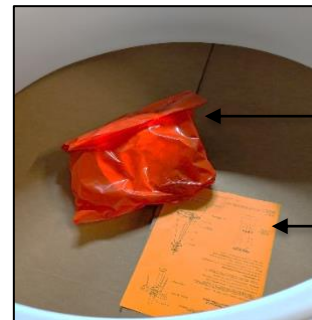

FIG. 6 RED BAG AND
3. INSTALLATION INSTRUCTIONS (shown in FIG. 6) - Please completely read the install instructions before starting installation.
4. RED BAG (shown in FIG. 6) contains below following items: